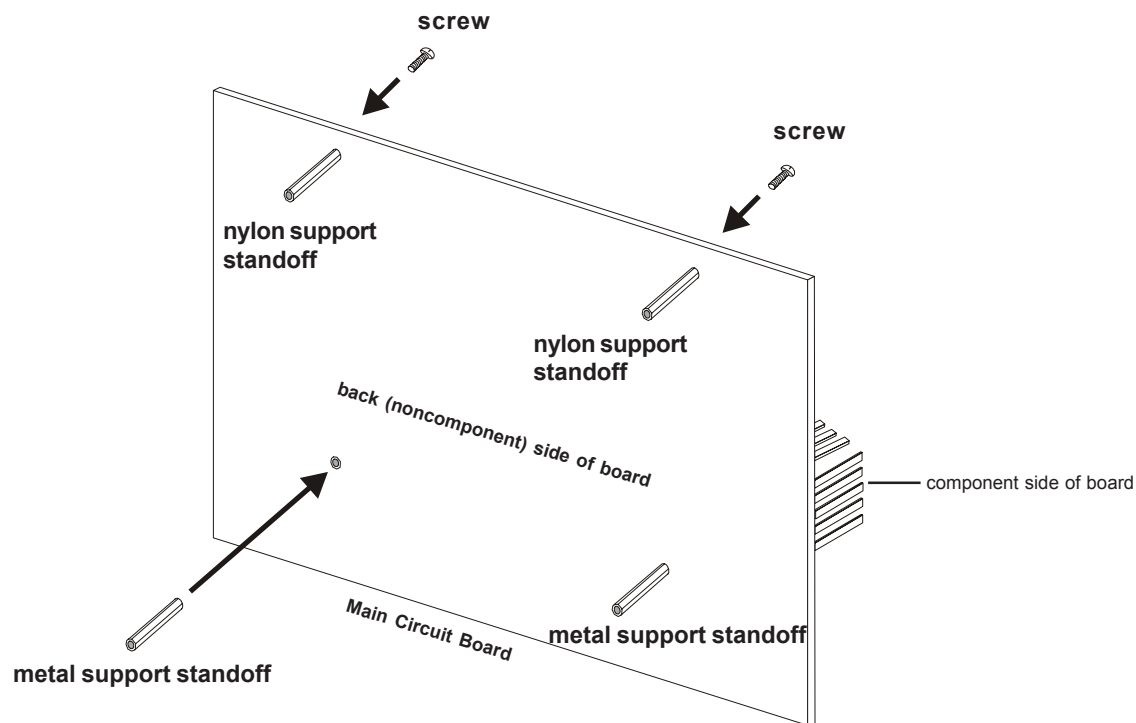

Figure 3: Support Standoff Installation on Main Circuit Board
8. Install the four supplied support standoffs to the new main circuit board as illustrated in Figure 3 on page 2 of this document.